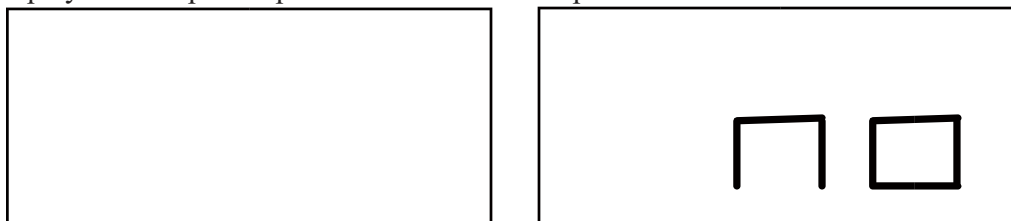
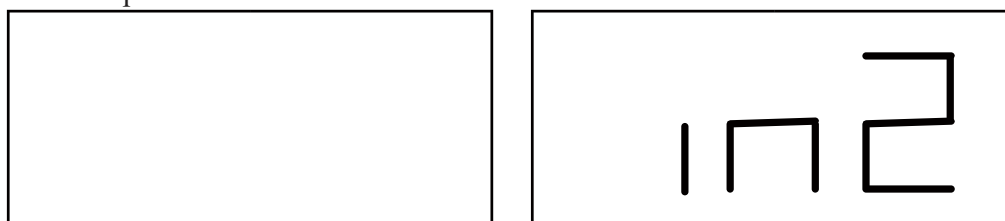

Fig. F6.2 Hidden Weight Program not possible or chosen position not allowed
Fig. F6.4 Input of the weight W2 position
6. If the angle is greater than 120°, the machine will display the message shown in figure F6.2 for one second and will emit a triple beep indicating that another point must be chosen. If the angle instead is less than 120°, the machine will display the message shown in Fig. F6.4, allowing you to continue with the next step.
8. If the chosen angle is greater than 120°, the machine will display Fig. F6.2 for one second and will emit a triple beep meaning to repeat the procedure in step 7 again. If the angle instead is less than 120°, the machine will immediately display the value of the external weight W2.